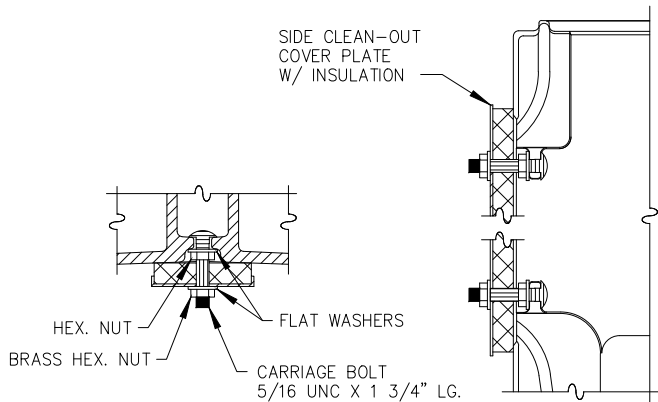

Figure 2.2: Side Clean-out Cover Plates
2. Remove clean-out cover plates and insulation (Items 24 and 25). Each clean-out cover plate is attached to the boiler by using two carriage bolts, nuts and washers (Item 26). Install the carriage bolts into the notch at the top and bottom of each clean-out opening, then secure them with a flat washer and steel nut as shown in Figure 2.2 locking them in place. Press the clean-out plate with insulation over the protruding carriage bolts until the bolts punch through the insulation so flat washer and brass nut can be installed. Tighten down nuts snugly compressing the insulation to form a good seal around the clean-out opening.